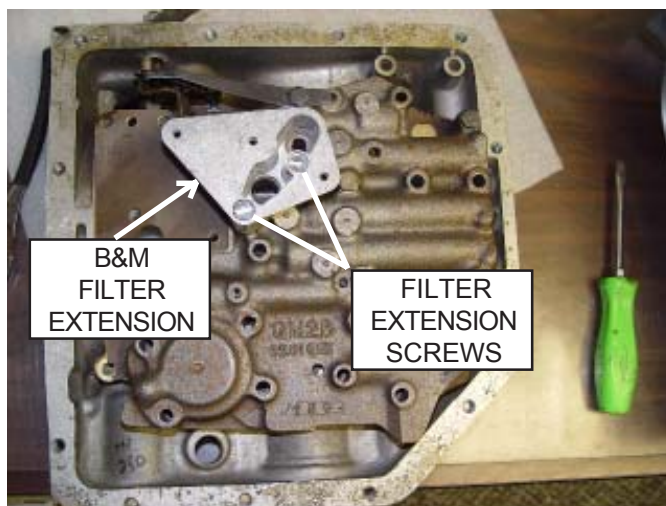

Figure 2
STEP 3. Install the filter extension and new gasket, supplied with the kit, in position on the valve body. Install filter extension screws and tighten securely (See Fig. 2). Install special B&M filter using the screws and nuts supplied with the kit. Tighten screws securely. **NOTE: One hole will be blocked by the the B&M filter with NO affect to functionality.**